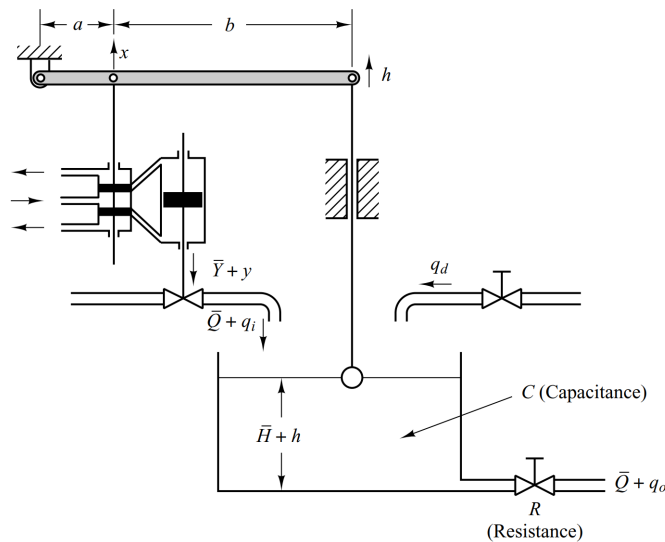

Figure 6: Liquid-level control system
6. Consider the liquid-level control system shown in Figure 6. The inlet valve is controlled by a hydraulic integral controller. Assume that the steady-state inflow and outflow rates are $\bar{Q}$, the steady-state head is $\bar{H}$, steady-state pilot valve displacement is $\bar{X} = 0$, and steady-state valve position is $\bar{Y}$. We assume that the fixed set-point corresponds to the steady-state head $\bar{H}$. Assume also that the disturbance inflow rate q_d , which is a small quantity, is applied to the water tank at $t = 0$. This disturbance causes the head to change from $\bar{H}$ to $\bar{H} + h$. This change results in a change in the outflow rate by q_o . Through the hydraulic controller, the change in head causes a change in the inflow rate from $\bar{Q}$ to $\bar{Q} + q_i$. (The integral controller tends to keep the head constant as much as possible in the presence of disturbances.) We assume that all changes are of small quantities. We assume that the velocity of the power piston (valve) is proportional to pilot-valve displacement x ($dy/dt = K_1 x$), where K_1 is a positive constant. We also assume that the change in the inflow rate q_i is negatively proportional to the change in the valve opening y ($q_i = -k_v y$) where K_v is a positive constant. Assuming the following numerical values for the system, $C = 2 \text{ m}^2$, $R = 0.5 \text{ sec/m}^2$, $K_v = 1 \text{ m}^2/\text{sec}$, $a = 0.25 \text{ m}$, $b = 0.75 \text{ m}$, $K_1 = 4 \text{ sec}^{-1}$ obtain the transfer function $\frac{H(s)}{Q_d(s)}$.